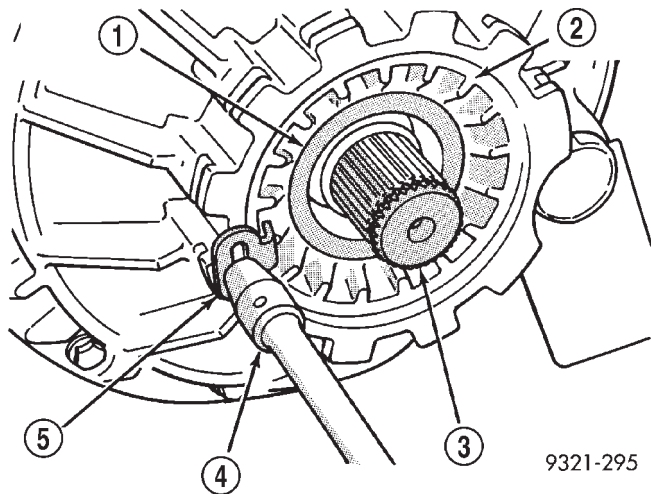

Fig. 117 Outer Adjuster Lock Removal
- (4) Remove outer adjuster lock (Fig. 117).